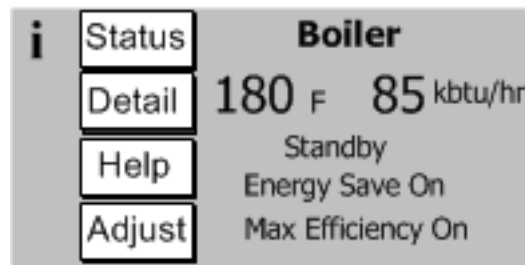
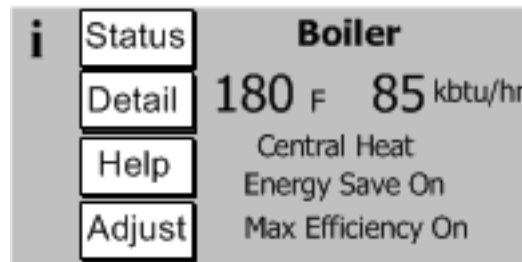

Figure 11.1a: Home Screen at Power-Up (No Call for Heat)
Figure 11.1b: Home Screen on Heat Demand
11. Start the boiler using the operating instructions on page 100. With the boiler powered up, and with no call for heat, the display should look like Figure 11.1a. Once a call for heat is present, it will look like Figure 11.1b.